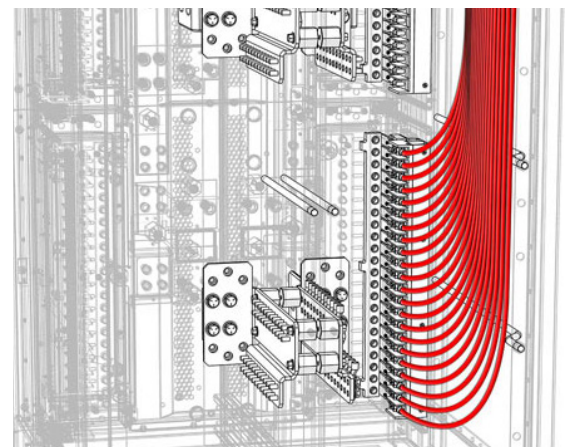

Figure 17. HOT Output Connections
- Step 2. Beginning with the bottom bus and working upwards, install all hot output cables/lugs to the studs located on the back of each panel and tighten hardware (see Figure 17).